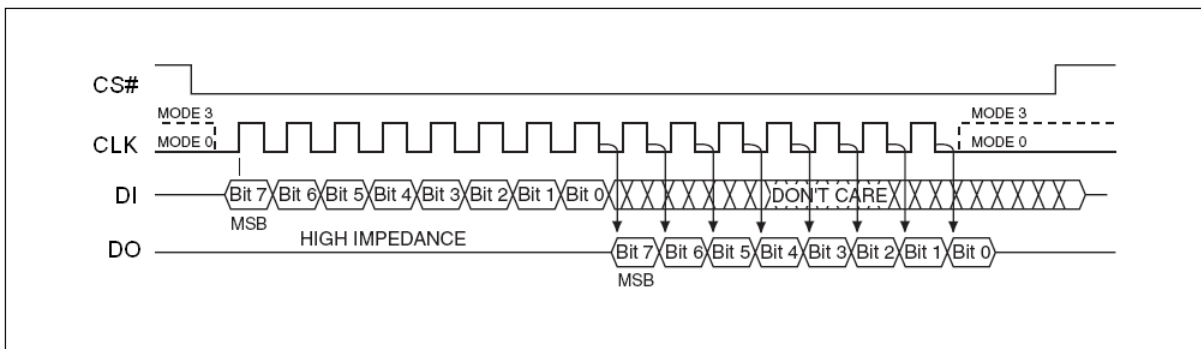

Figure 3. SPI Modes
The device is accessed through an SPI compatible bus consisting of four signals: Serial Clock (CLK), Chip Select (CS#), Serial Data Input (DI) and Serial Data Output (DO). Both SPI bus operation Modes 0 (0,0) and 3 (1,1) are supported. The primary difference between Mode 0 and Mode 3, as shown in Figure 3, concerns the normal state of the CLK signal when the SPI bus master is in standby and data is not being transferred to the Serial Flash. For Mode 0 the CLK signal is normally low. For Mode 3 the CLK signal is normally high. In either case data input on the DI pin is sampled on the rising edge of the CLK. Data output on the DO pin is clocked out on the falling edge of CLK.